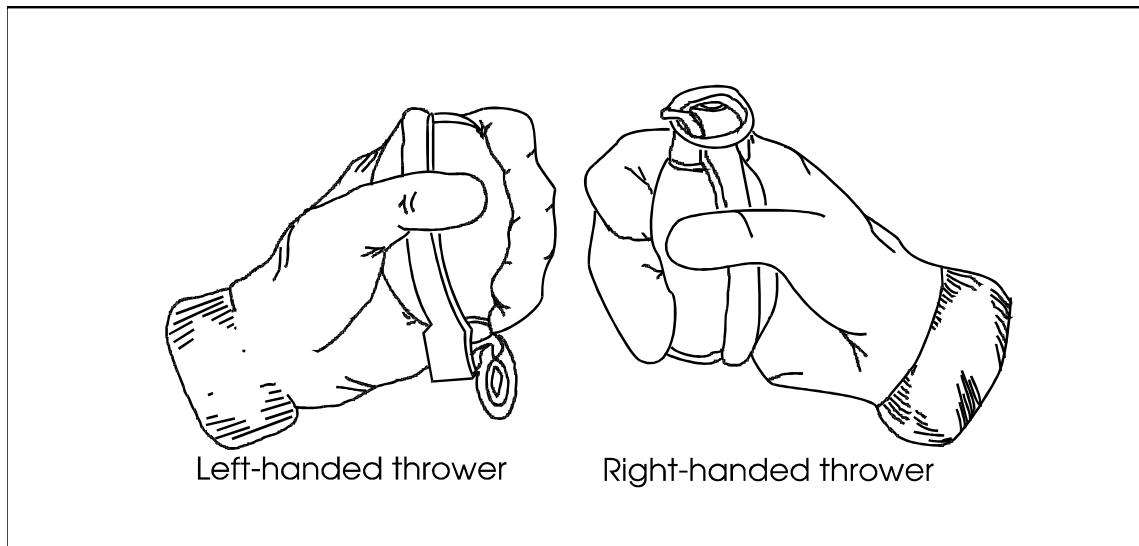

Figure 4-1. Cold weather grenade procedures
- Right-handed throwers rest the grenade safety lever between the first and second knuckles of the thumb to ensure a sensitive feeling of the safety lever. Left-handed throwers hold the lever with the thumb by holding the grenade upside down. This procedure provides ready access to the safety pin ring (Figure 4-1).